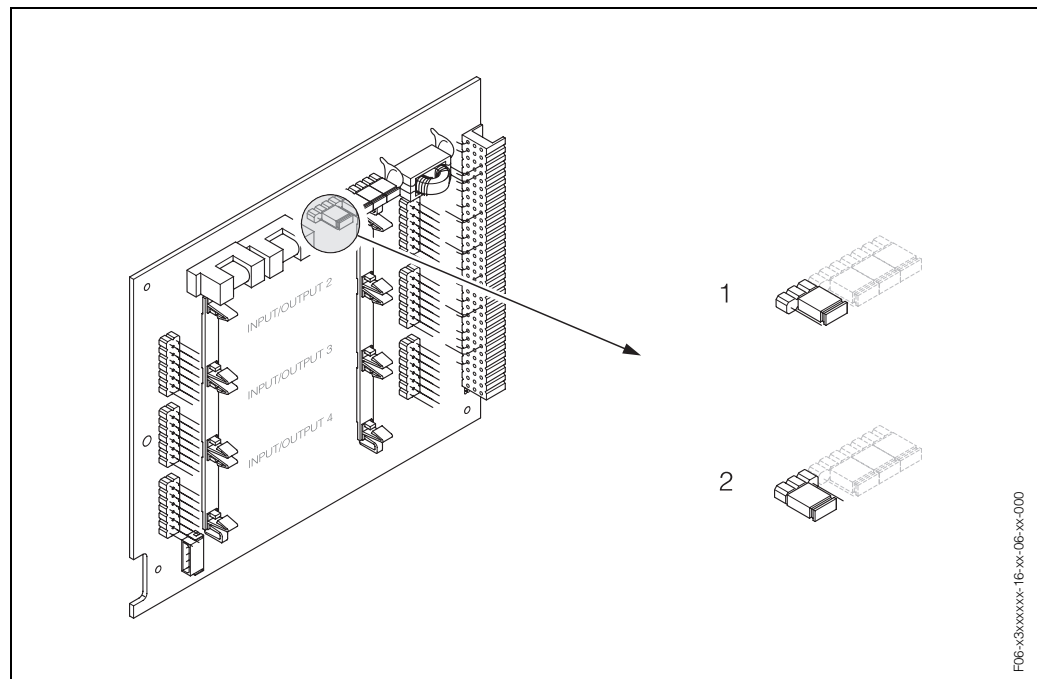

Fig. 28: Switching HART write protection on and off (I/O board)
3. Switch HART write protection on or off, as applicable, by means of the jumper (Fig. 28).